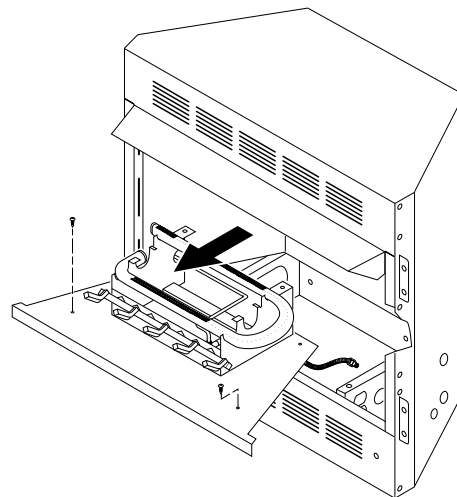

Figure 18 - Removing Log Base Assembly From Fireplace
2. Remove screws that attach log base assembly to fireplace (see Figure 18). Carefully lift up log base assembly and remove from fireplace (see Figure 18).